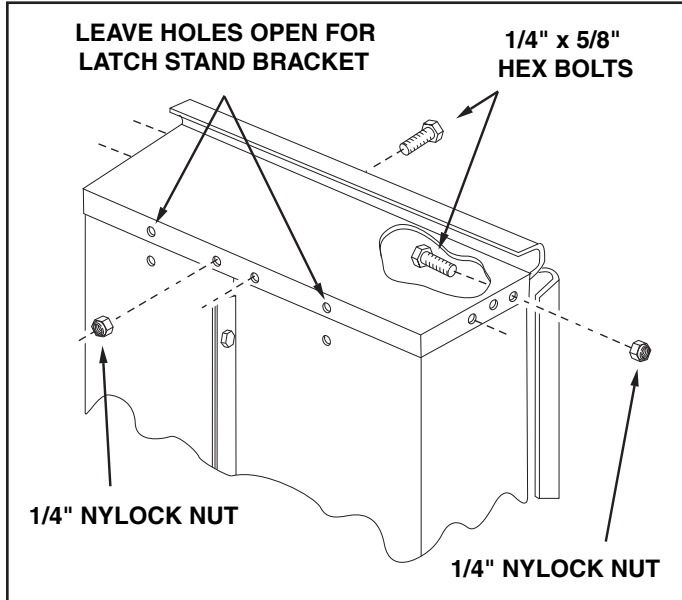

FIGURE 4
10. Assemble the front panel over the end of the cart using six 1/4" x 5/8" hex bolts and 1/4" nylock nuts as shown in figure 4. Leave two holes in the bottom of the panel empty as shown. Pull the cart body halves together and **tighten** the bolts in the bottom of the front panel, then **tighten** the bolts in the sides. See figure 4.